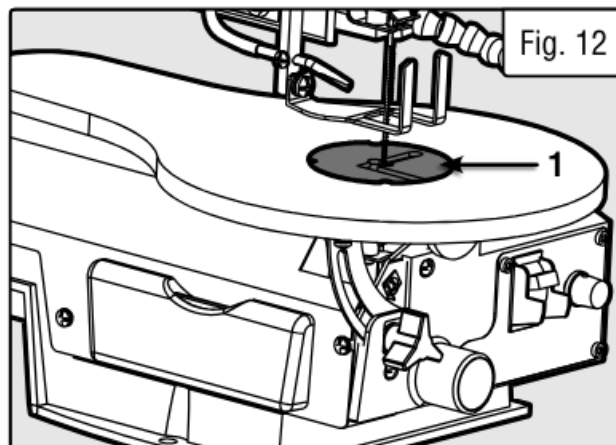

Fig. 12
2. Carefully remove the table insert (Fig. 12 – 1).
5. Place the table insert (Fig. 12 – 1) back into place.